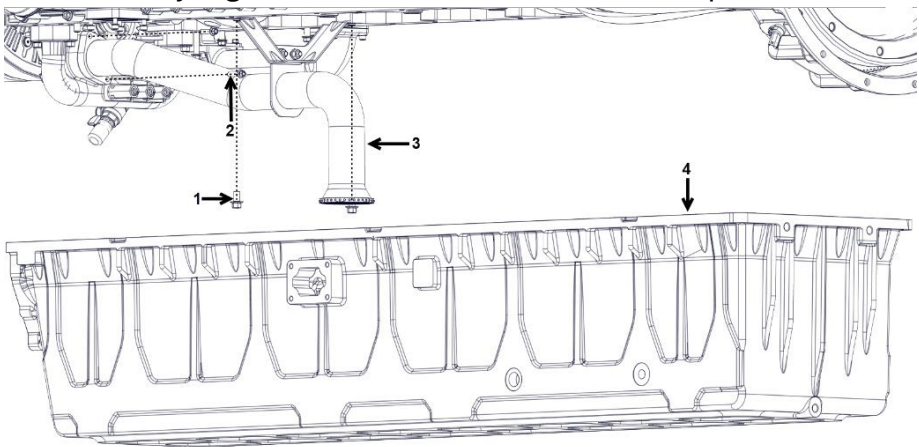

Figure 96. Oil Pan Assembly
6. Remove both bolts (Figure 96, Items 1 & 2) from the oil strainer (Figure 96, Item 3).
7. Carefully remove the oil strainer (Figure 96, Item 3)